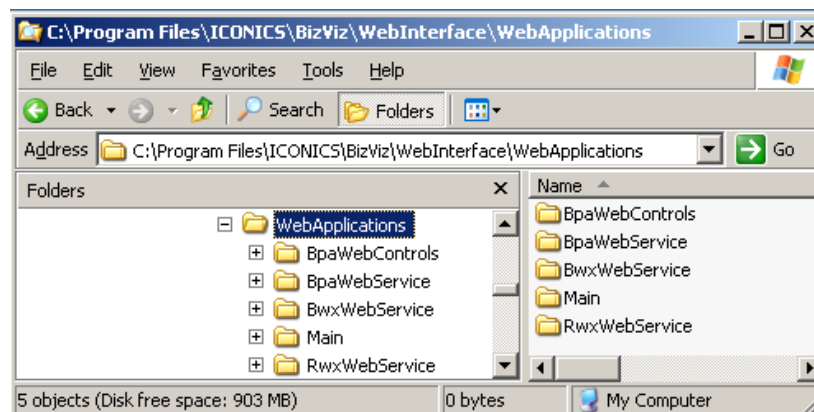

Figure L1.19 – Confirming WebApplications Folders
2. Make sure you have both the **BpaWebControls** and **BpaWebService** folders, as shown in Figure L1.19.